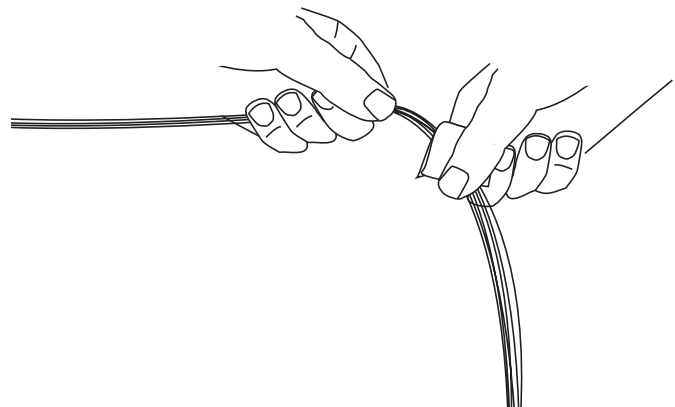

Figure 24
Step 9: Remove the ribbon matrix from the separated fibers by wiping the fibers with a lint-free tissue or cloth soaked in isopropyl alcohol. Wipe the fibers until all of the matrix material has been removed (Figure 24).